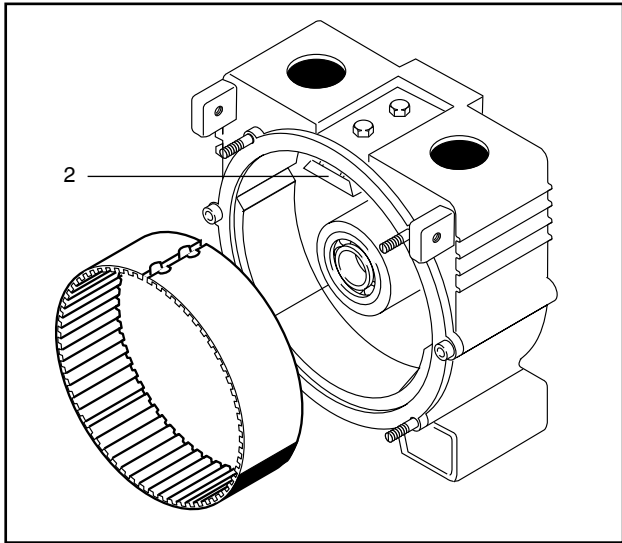

Fig. 14 1 Separating part
2. Insert the new separating part into the holder with the gearing towards the inside (Fig. 14).